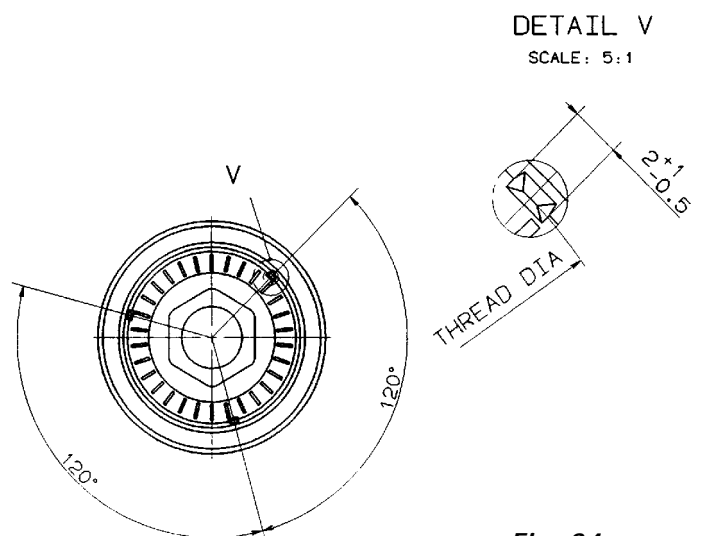

Fig. 34
Peen the adjusting screw (34) in such a way that only material is peened that had not yet been peened previously: see detail "V" of **Fig. 34**.